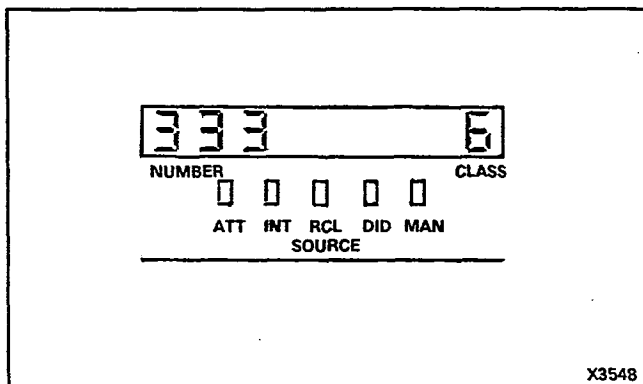

Figure 4-4 Source Display
4.32 SOURCE: The SOURCE display (see Figure 4-4) consists of eight 7-segment and five LED displays, which provide the following information on all calls directed to the console: